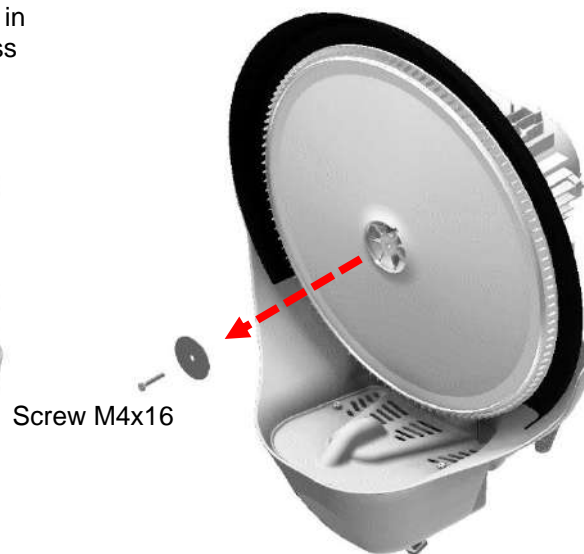

Fig. 4.4.2
- Using a screwdriver (hexagonal 7), unscrew the rotating disc's M4x16 fastening screw to the motor shaft and its washer (Fig. 4.4.2).